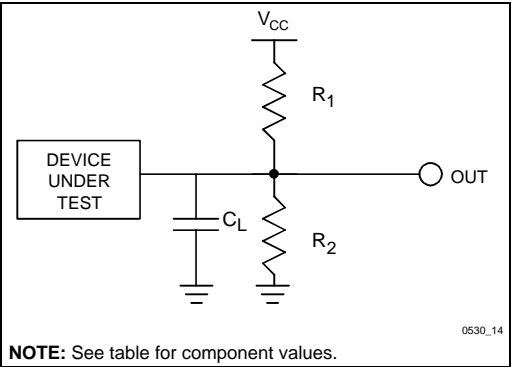

Figure 14. Test Configuration
5. See *Test Configuration* (Figure 14), 3.3 V Standard Test component values.
6. See *Test Configuration* (Figure 14), 5 V High-Speed Test component values.
7. See *Test Configuration* (Figure 14), 5 V Standard Test component values.